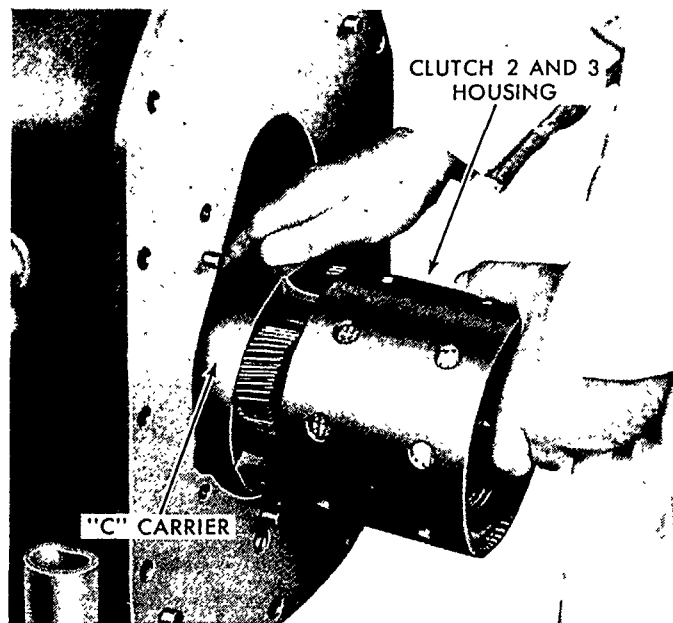

Figure 69
5. Loosen the No. 3 band adjusting screw and remove the clutch 2 and 3 housing, "C" carrier, and the mainshaft in one assembly as shown in Figure 69.